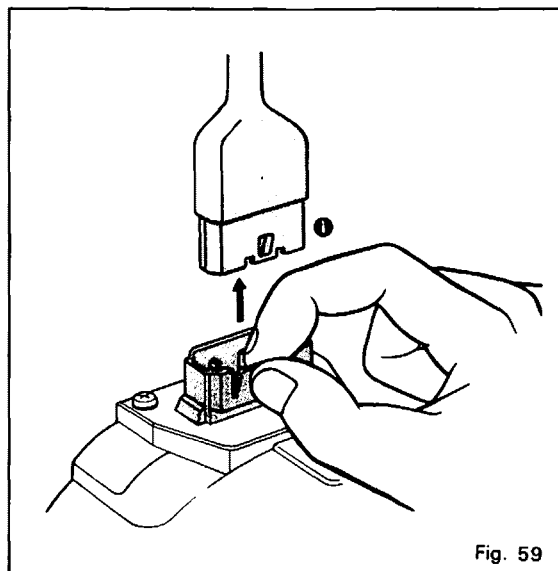

Fig. 59
- a. Detatch the plug out of slow speed motor wire ❶ as per Fig. 59.